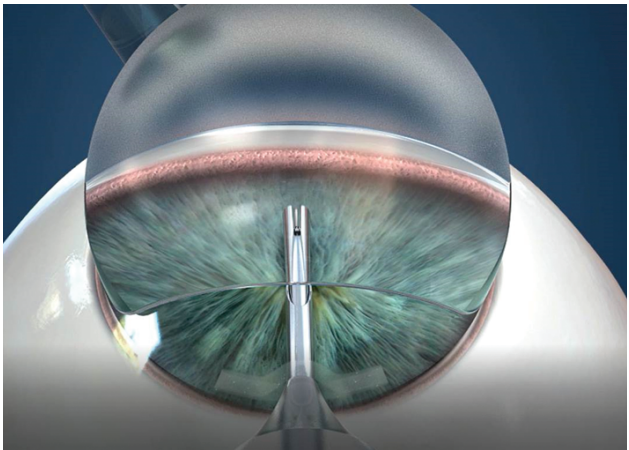

Figure 6a. iStent infinite Implant Site
- ii. Place the gonioscope on the cornea and position the patient and surgical microscope as needed to visualize the trabecular meshwork through the gonioscope on the nasal side of the eye. Focus on the landmarks in the angle of the eye (Figures 6a & 6b). Look up from the iris root to find the scleral spur (white line). Then look for Schwalbe's line (white line) down from the cornea. The trabecular meshwork (typically a red/brown line) is between the scleral spur and Schwalbe's line. Schlemm's canal is behind the trabecular meshwork.